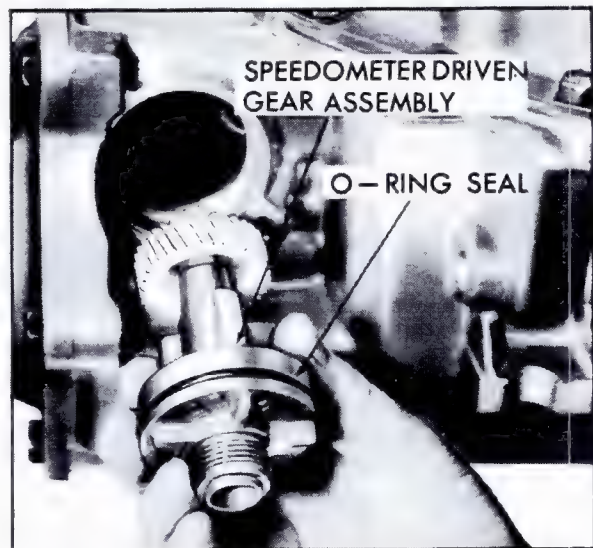

Fig. 7-120 Installing Speedometer Driven Gear
1. Check number of teeth stamped on nylon gear. Locate corresponding tooth range on outside face of sleeve and install sleeve and driven gear with tooth range numbers on outside face of sleeve toward bottom of transmission, Fig. 7-120.